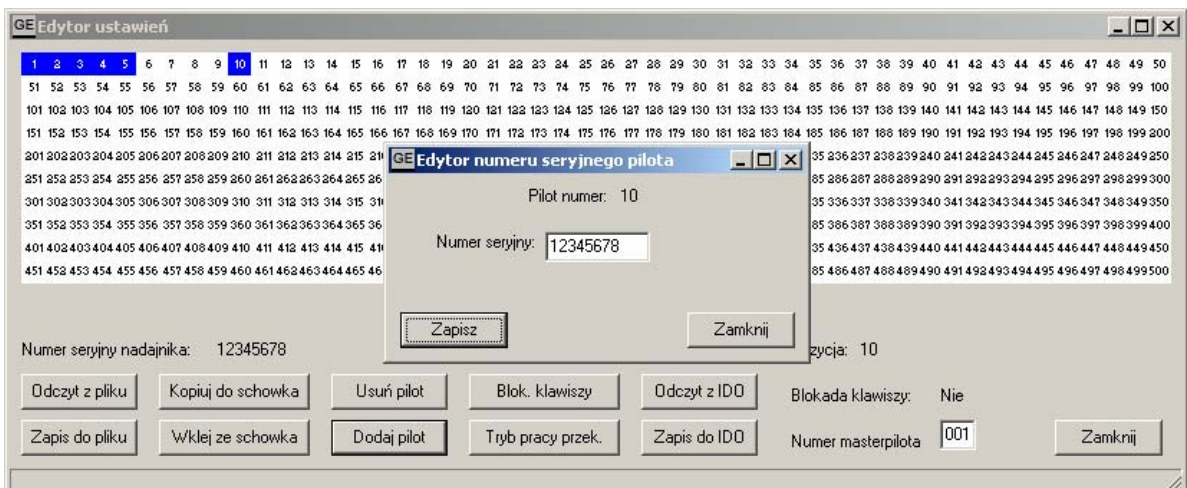

fig. 33
**Point 5.** To add a new remote control, click once on the chosen number (1-500) so that the number in the position field changes on the one chosen by you. Next, click on the Add remote control button and enter the serial number of the sender (hexadecimally) in the new window. Next, click the Save and Close buttons. After correct saving, the cell under which the remote control was saved should change the colour on blue as shown on the fig. 33.